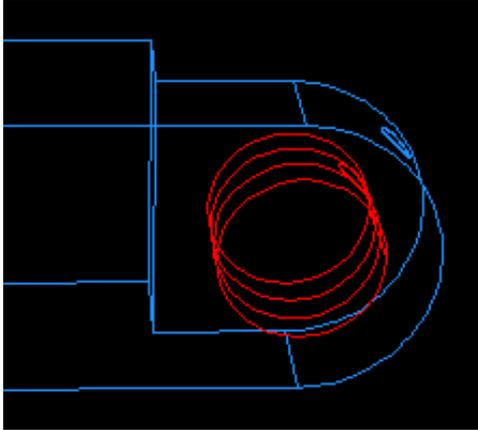

Figure C-18 Select the face to which to extrude.
11. Select the cylindrical inner surface of the hole in the part to indicate the face to which to extrude, as illustrated in Figure C-18. (Because you can select at most only one face, Abaqus/CAE does not ask you to indicate that you have finished selecting.)